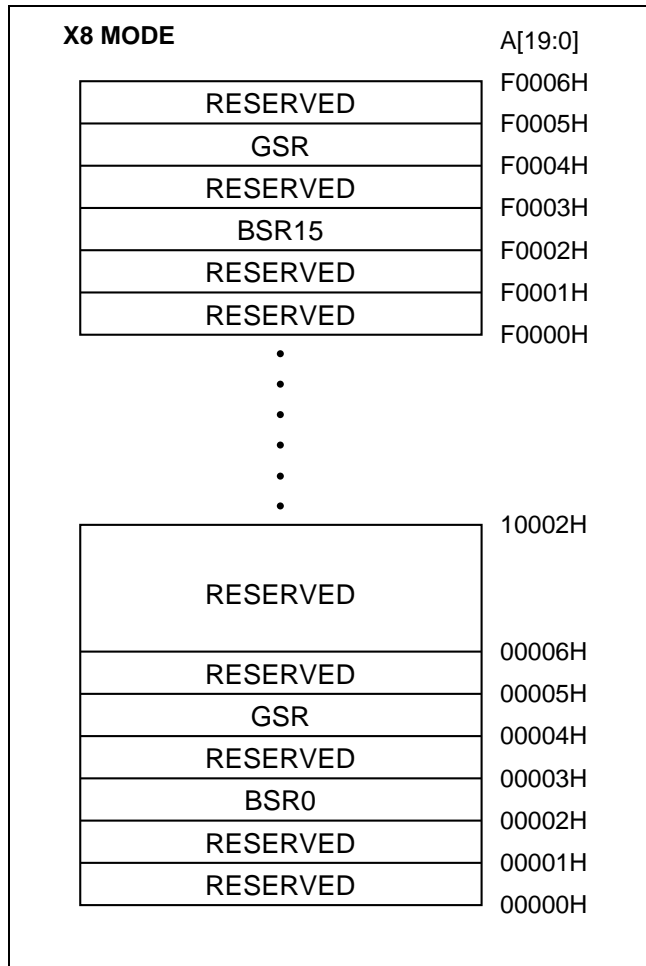

Figure 4.1. Extended Status Register Memory Map (Byte-Wide Mode)
The GSR and BSR memory maps for Byte-Wide and Word-Wide modes are shown in Figures 4.1 and 4.2.
1. RA can be the GSR address or any BSR address. See Figure 4.1 and 4.2 for Extended Status Register Memory Maps.